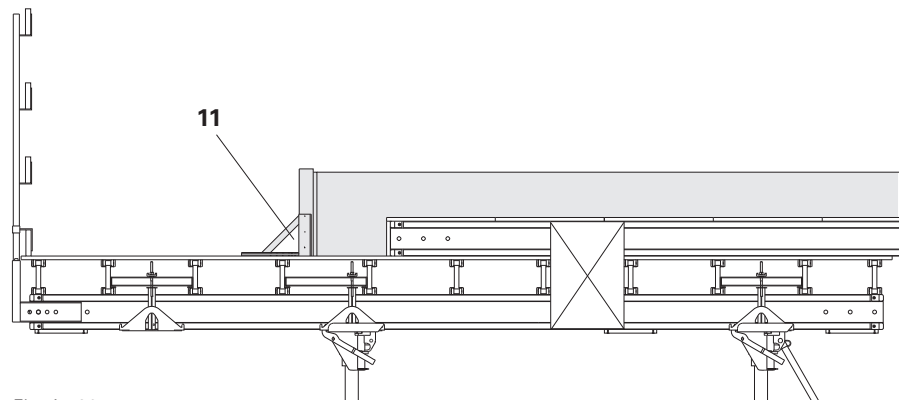

Fig. A7.02
The Stopend Angle (11) can be nailed to the plywood formlining as stopend formwork up to $h = 40$ cm. (Fig. A7.02)